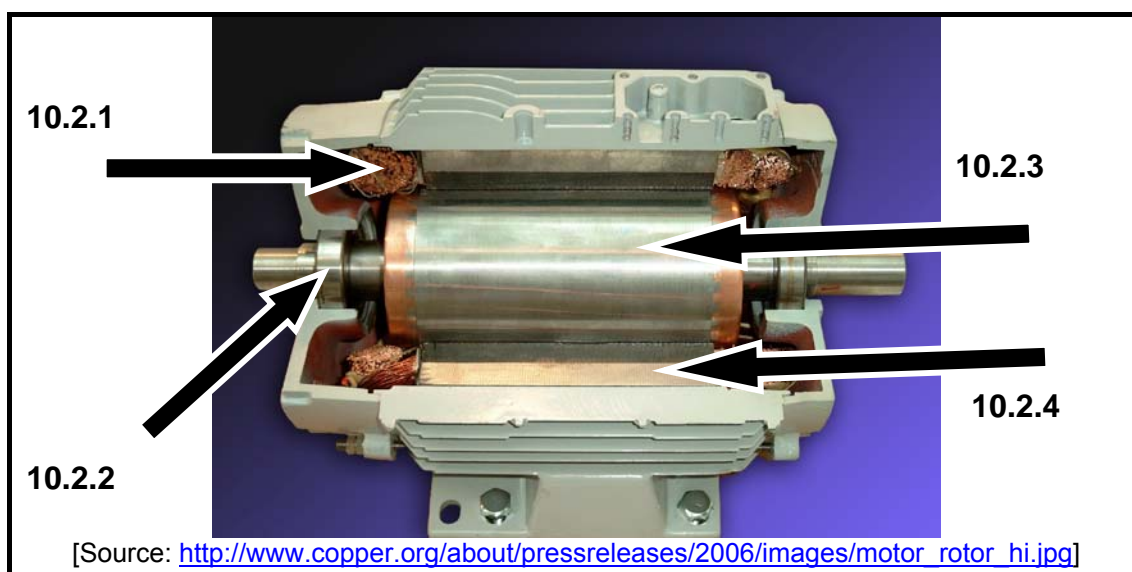

FIGURE 10.1: THE SQUIRREL-CAGE MOTOR
10.2 Identify the parts of the squirrel-cage motor shown in FIGURE 10.1 below.